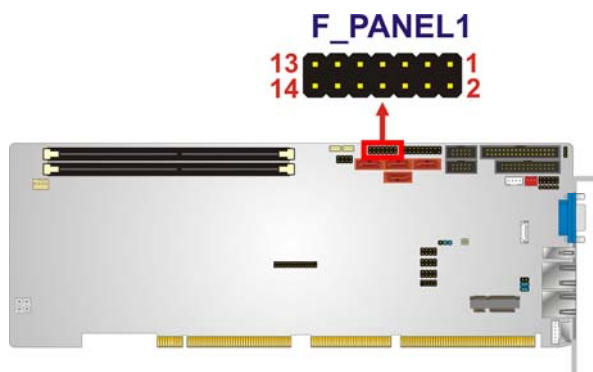

Figure 3-12: Front Panel Connector Location
- CN Location: See Figure 3-12